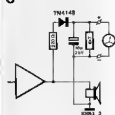

Figure 3. This test circuit allows even the highest frequencies to be measured with accuracy. It is connected in parallel with the loudspeakers.
Figure 3. Terminals \rightarrow B (15 V), A . . . D', E and E', F and F', G and G' and \downarrow are wired so that the printed circuit board can be 'plugged' into the bus board of the Prelude.
1. As usual, the short lengths of wire (about 2 cms) are soldered in place and then bent parallel to the board. This very economical 'edge connector' is fitted and soldered to the bus board in the position shown in figure 3 on page 2-20 of the February 1983 issue.
Measurements can be done by ear, with the aid of the test circuit of figure 3 and a conventional, analogue multimeter. With the RC equalizer in circuit, we can now set to work.